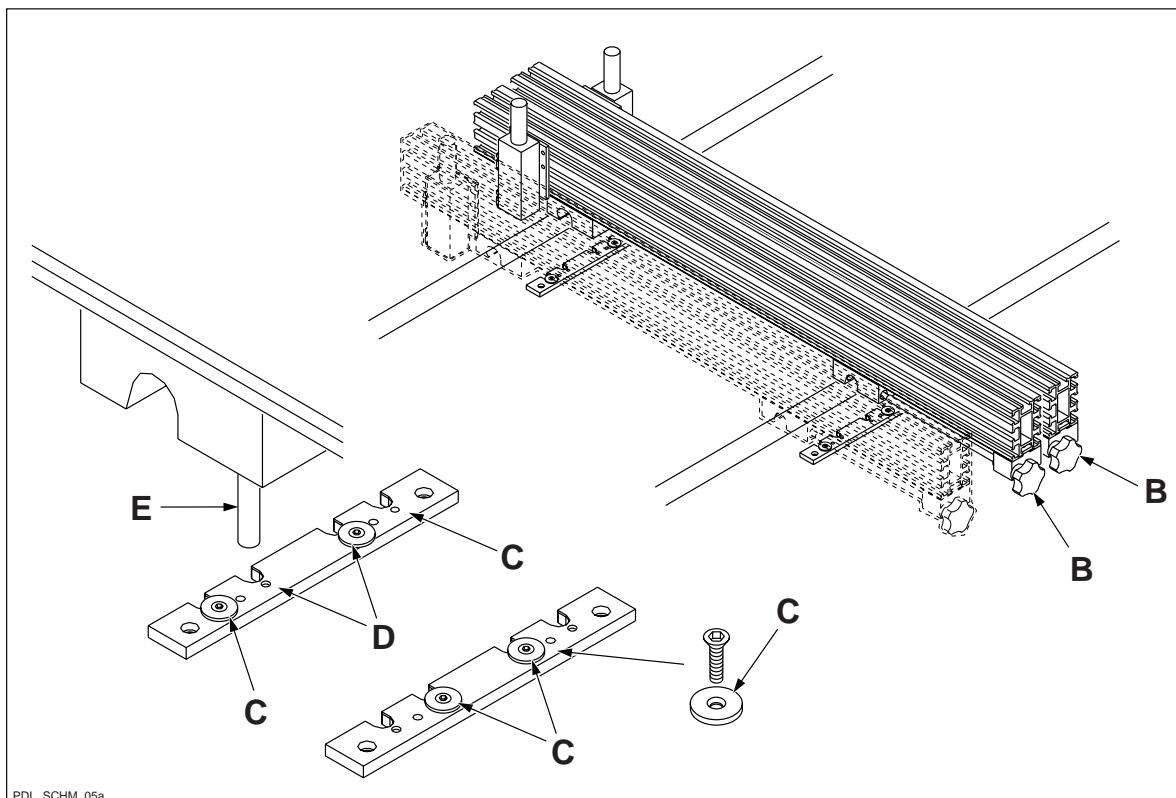
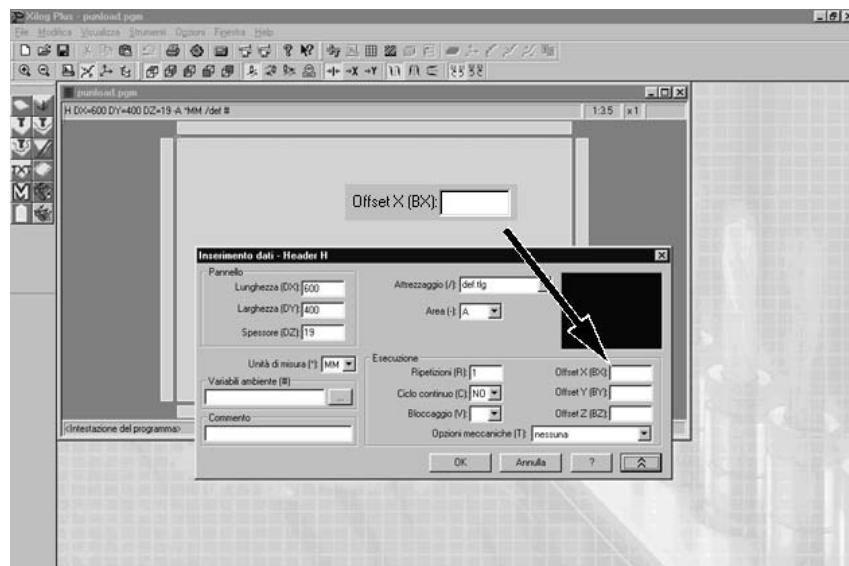

Fig. 3.8h
Fig. 3.8m
- loosen knob B (Fig. 3.8h)
After this operation, in the program HEADER insert the value indicated on plate G (Fig. 3.8h) in field "BX" (fig. 3.8m)